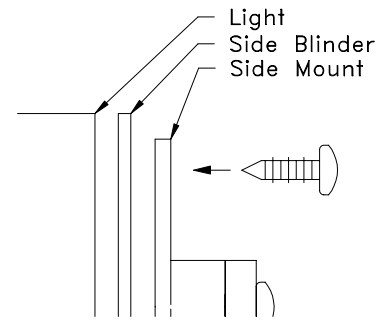

**Figure 8 - Assemble Arm to Side Mount**
6. Using a #8 machine screw and a #8 machine nut, loosely assemble the other end of the suspension arm to a side mount. Make sure that the “foot” of the window mount is pointed away from the side mount, as shown in Figure 8. Repeat for the second arm and side mount.